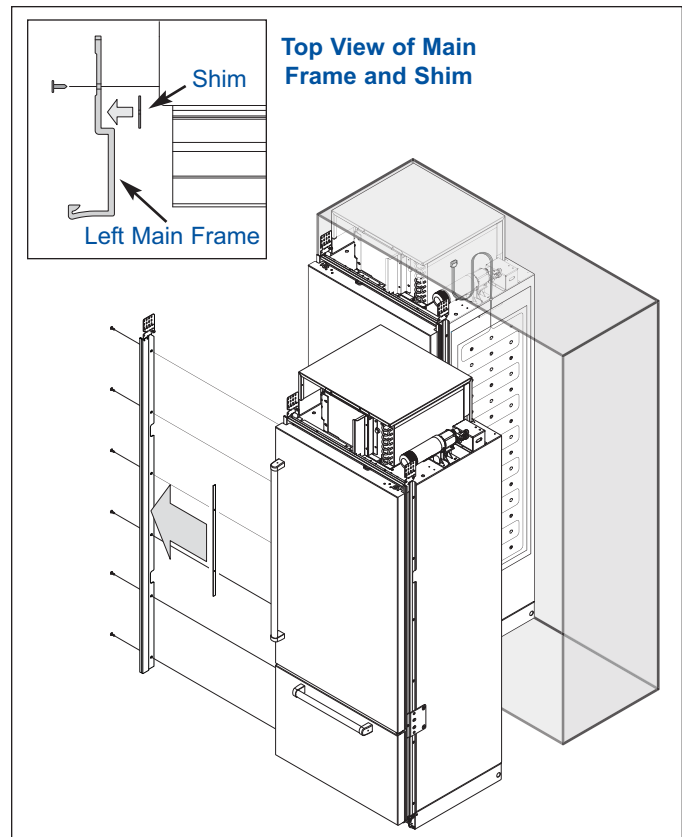

Figure 6. Left Main Frame Off and Shim Application
1. Remove the left side mainframe from the right hand unit (See Figure 6).
3. Align the two (2) holes in the shim parallel with the two (2) middle main frame mounting holes, and affix the shim to the main frame, making sure it is tight to the bend in the main frame, and that the holes are ***NOT*** concentrically aligned with the mounting holes (See Figure 6).